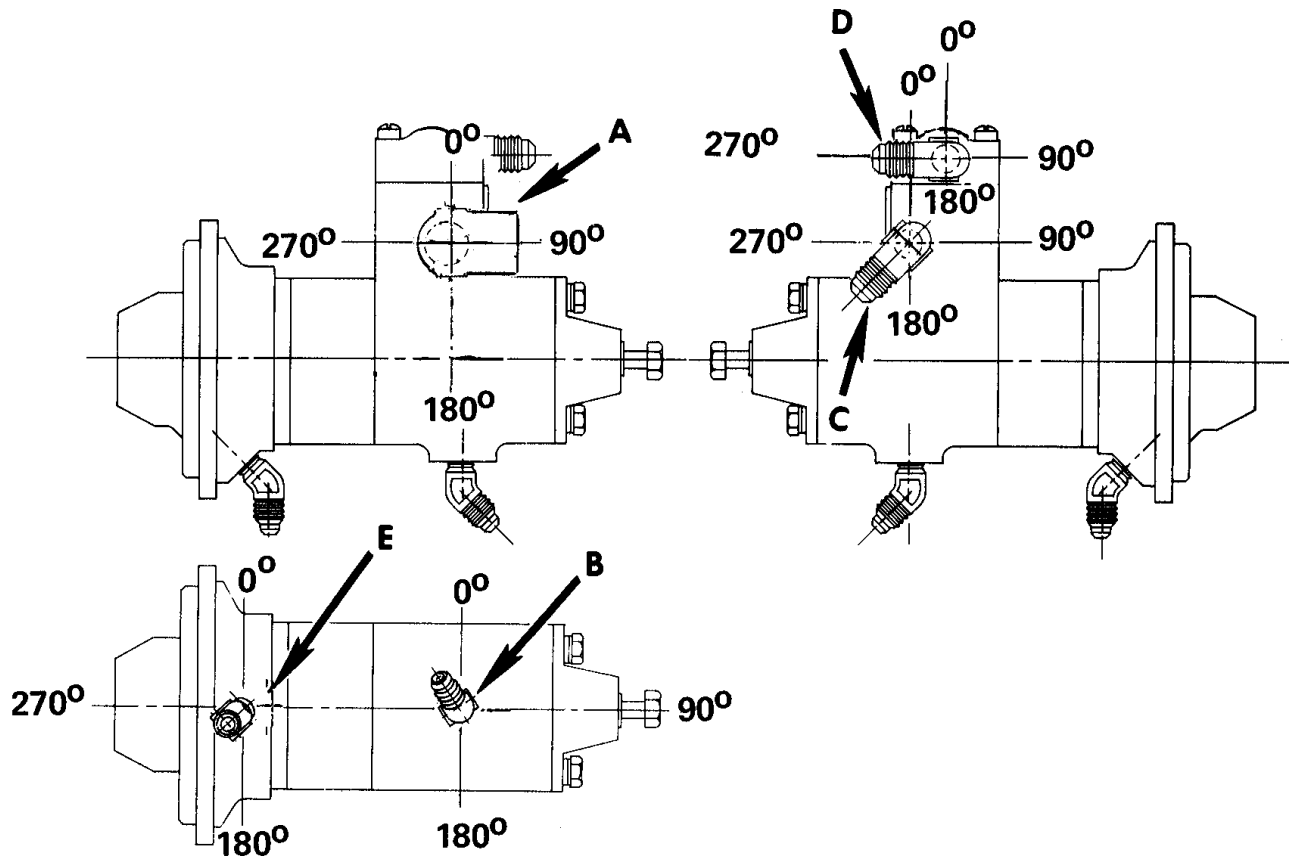

FIGURE 9-3. FUEL PUMP AND VAPOR SEPARATOR FITTING LOCATIONS
b. If it is necessary to replace fittings, they are to be oriented according to figures 9-3, 9-4 and 9-5.